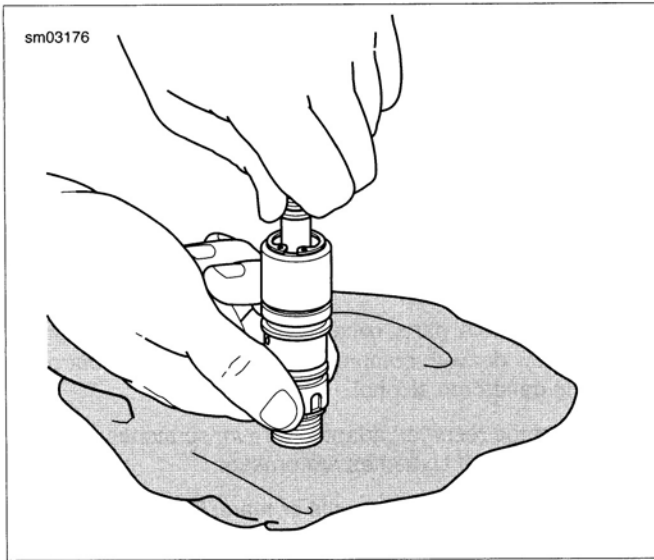

Figure 2-50. Compress Spring and Retaining Ring
4. See Figure 2-50. Stand cartridge body upright on banjo sealing surface. Lay down a clean shop cloth to protect the sealing surface from damage.